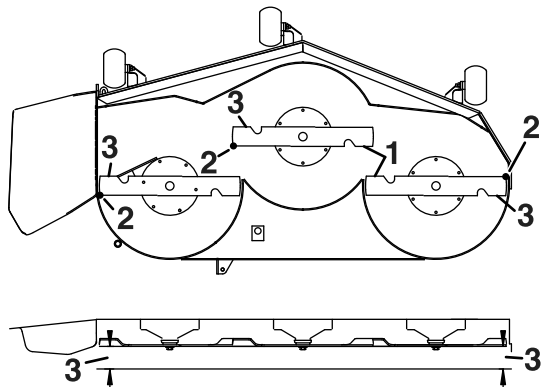

Figure 72
5. Measure between the outside cutting edges and the flat surface (Figure 72).